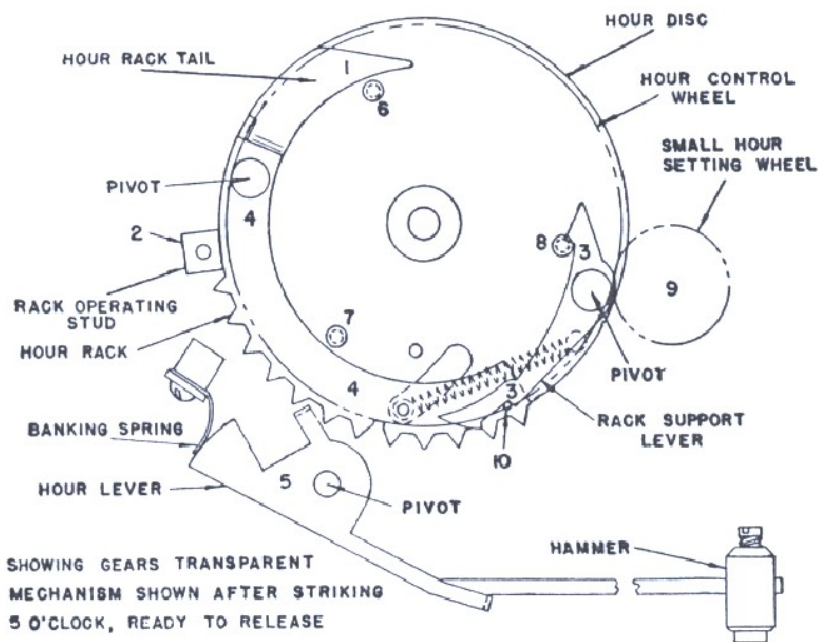

Figure 4
*See Figure 4, Page 7*
While the clock is chiming the hour the hour rack 4 is being thrown out into operating position to strike the hour. If the hour rack tail 1 is not polished enough it may bind as it slides along the rack operating stud 2. Polish the tail of the rack 1 and make sure that the rack operating stud 2 has no burr. See Figure 4, Page 7.
Strike hour lever 5 may lift the strike hammers too high and they may hit the hand set shaft. Bend the hour lever 5 down at the point where it lifts the two hammers and then take up the extra slack by bending the banking spring in. See Figure 4, Page 7.